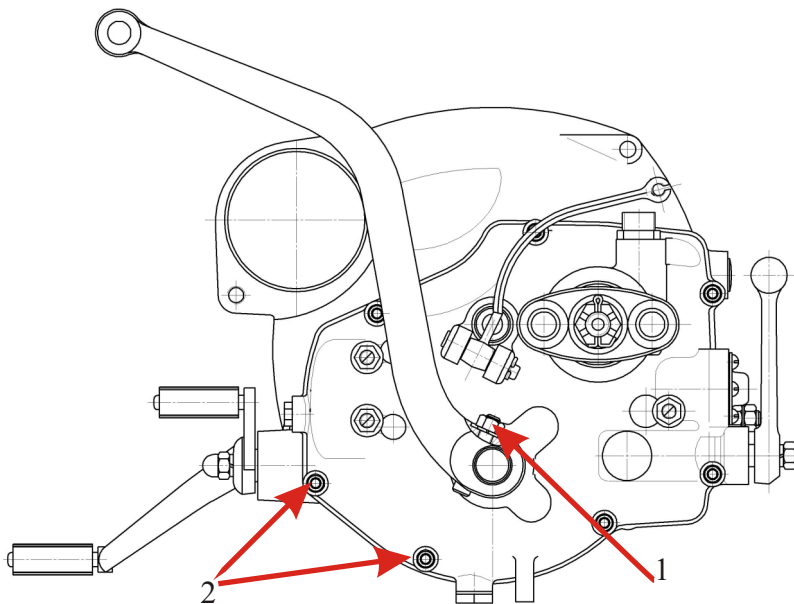

Fig.46
- Undo the nut of the kick-starter lever wedge, knock out the wedge with an aluminum hammer, and remove the lever (Fig.46, Pos. 1);
- Turn off seven bolts fastening the gear case cover (Fig.46, Pos.2);